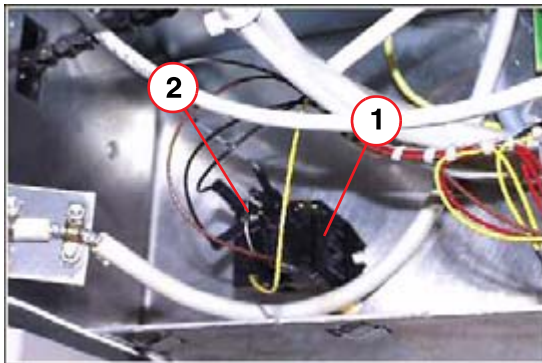

Fig. 2: *Relay and diode*
- Place the relay on the available threaded bolts (1/Fig. 2 / p. 5) and use 3 mm locking washers, shims, and nuts to secure it.
- Connect the supplied diode to relay K1 (2/Fig. 2 / p. 5).